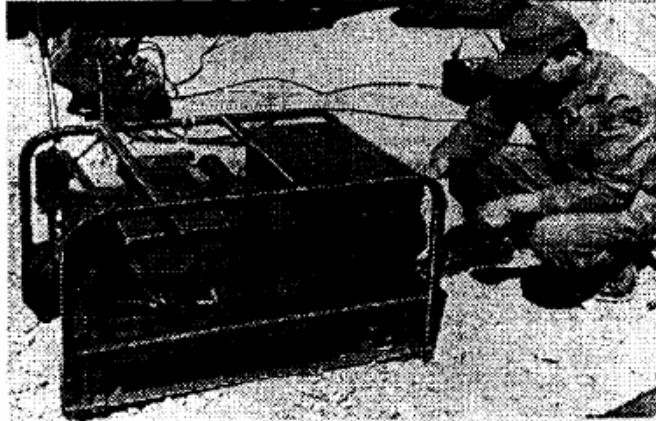

Figure 3-19
- (2) Keep the charging area clean.
- (3) Provide adequate ventilation and sufficient flow of cooling air around the generator engine.
- (4) Perform a complete PMCS on the generator and distribution panel using the appropriate equipment manual (Figure 3-19).